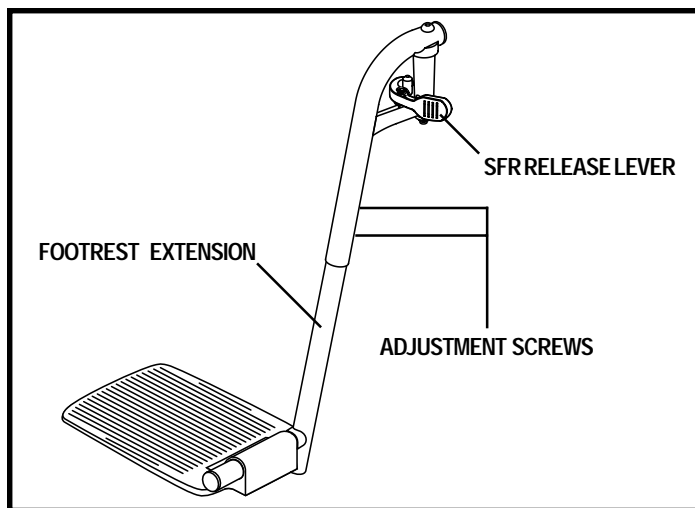

Figure 21. Swing-Away Footrests
1. Push in the SFR release lever. See figure 21.
1. Remove the two adjustment screws from the side of each footrest extension. See figure 21.